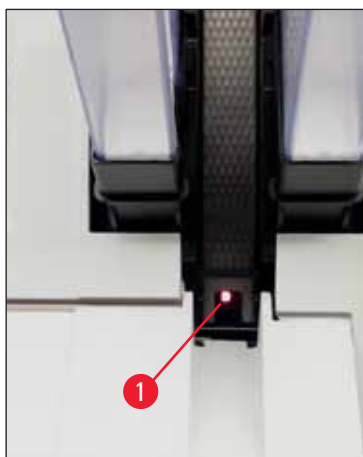

Fig. 48
- Loading station (→ "Fig. 48")